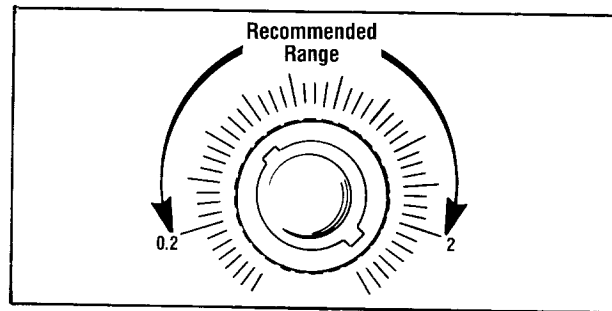

Fig. 3. Frequency Dial.
2. Select the desired frequency range by depressing the appropriate range switch. The output frequency is displayed, with the appropriate decimal point, on the LED display. The **Hz** or **kHz** indicator is also lit. Turning the frequency dial will vary the output frequency from approximately two-tenths the indicated range value (selected with the range switches) to two times the value. For example, if the **10 K** range is selected, when the frequency dial is set to the counterclockwise most major line, the output frequency will be approximately 2 kHz. When the frequency dial is set to the clockwise most major line, the output frequency will be approximately 20 kHz. Fig. 3 shows these major lines. The frequency selected is available at both the **TTL/CMOS** jack and the **OUTPUT** jack.
Keep the (starting) frequency control dial between the 0.2 and 2 positions (see Fig. 3).